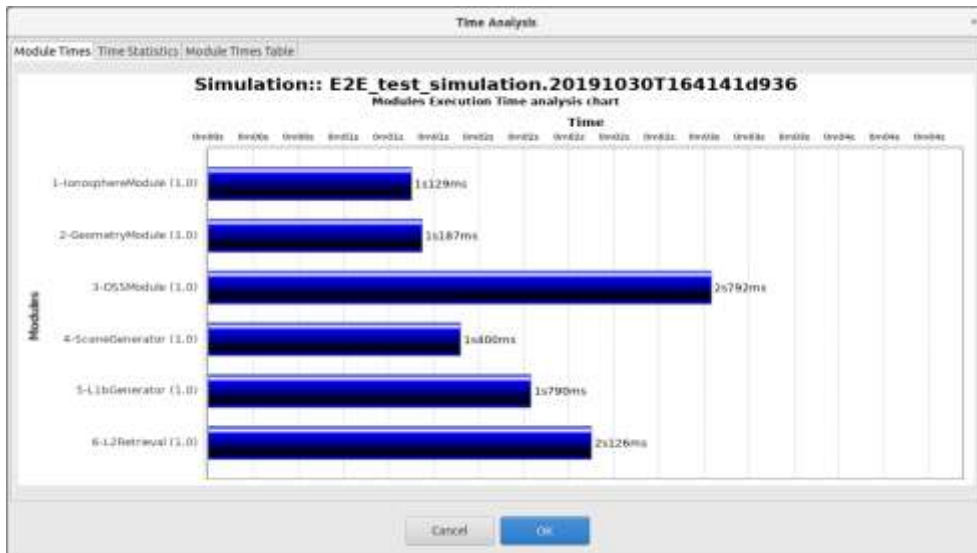

Figure 4-54: Bar graph showing module times
- ❑ *Module Times* tab: presents the module execution time in a bar chart graph¹⁰. See Figure 4-54.